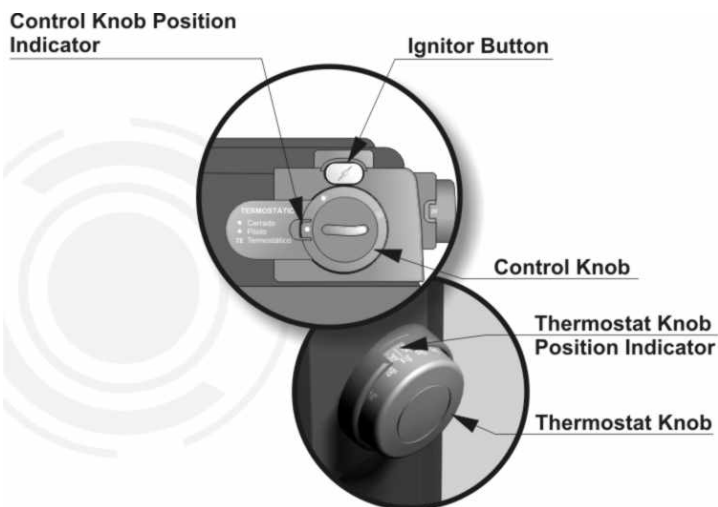

Fig. 7
Lighting Instructions Thermostatic Models (Fig. 7)
- Push in the gas control knob from ● (Off) and turn it to ★ (Pilot) position (Fig. 7).